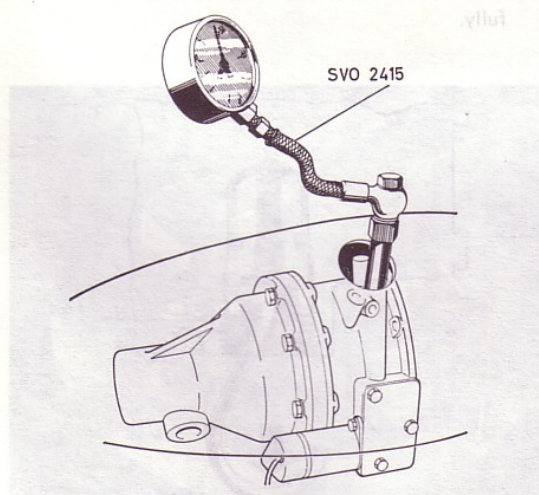

Fig. 8. Checking the oil pressure
2. Remove the plug over the operating valve and connect pressure gauge SVO 2415 as shown in Fig. 8.